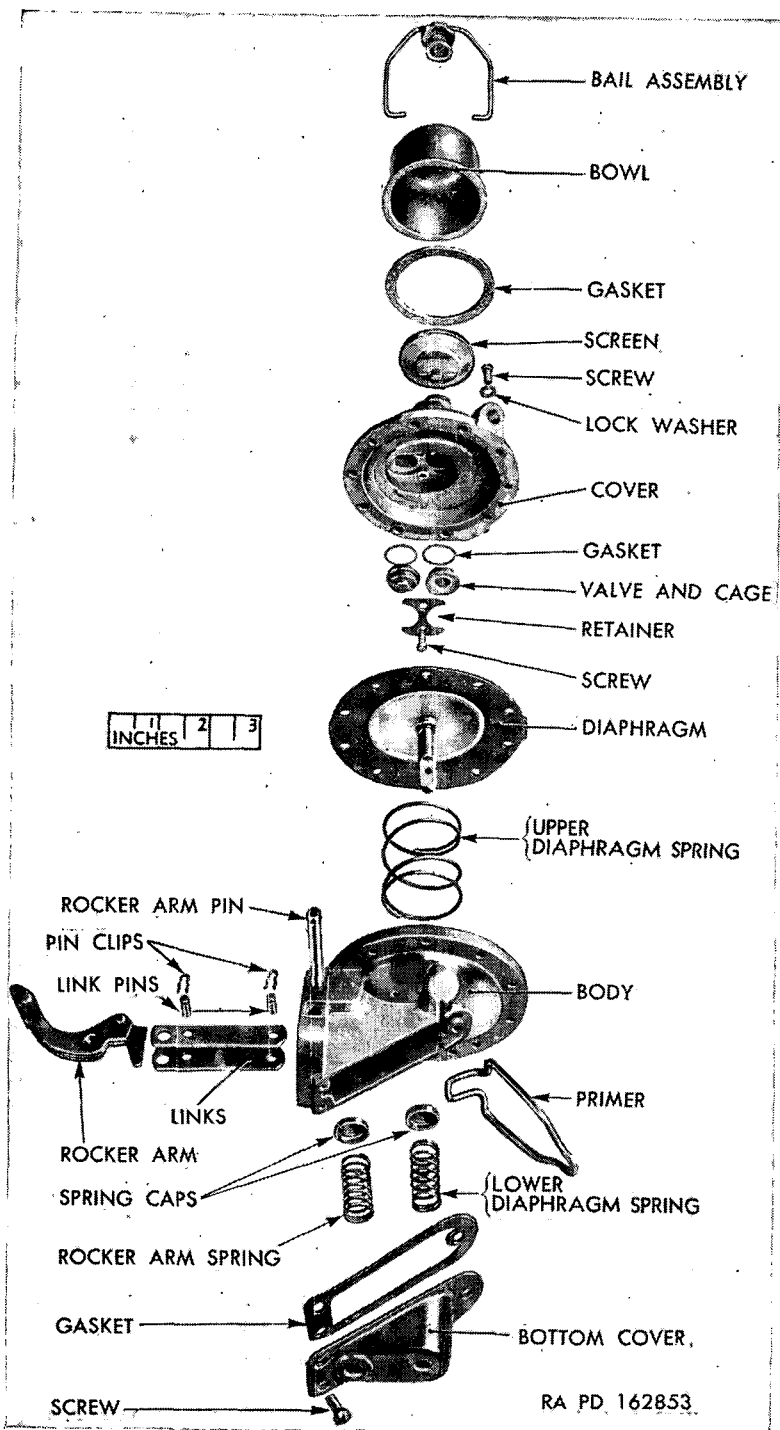

Figure 27. Fuel pump—disassembled (typical series AG construction).
- (1) Mark edges of top cover and body (fig. 27) of series AG fuel pump (fig. 26) with a file. Mark at heat shield stud, if used. The parts may then be assembled in the same relative positions and heat shield stud properly located.
*a. Assemble Body (fig. 27).*
- (1) If used, assemble upper spring over diaphragm pull rod, and push pull rod through hole in pump body. Assemble sheared ends of two links to flat of pull rod (sheared link corner toward top of pull rod) and retain with one link pin and two clips. Install link pin through center hole of links and retain with two clips.
- (2) Install rocker arm between links with hooked end over center link pin. Assembly is correct when center link pin is below center line of links. Aline rocker arm pin hole with hole in body and drive in rocker arm pin. Install washer over counterbored end of pin and spread pin at counterbore to retain in position.
- (3) Place diaphragm spring over inner boss of lower cover and the rocker arm spring over outer (recessed) boss. Place spring caps over springs and gasket on lower cover. Suspend body with lower cover flange down (install priming lever if used) and place lower cover, with associated parts, against body. Spring caps must seat against bottom of pull rod and hook of rocker arm. Retain lower cover with three screws.